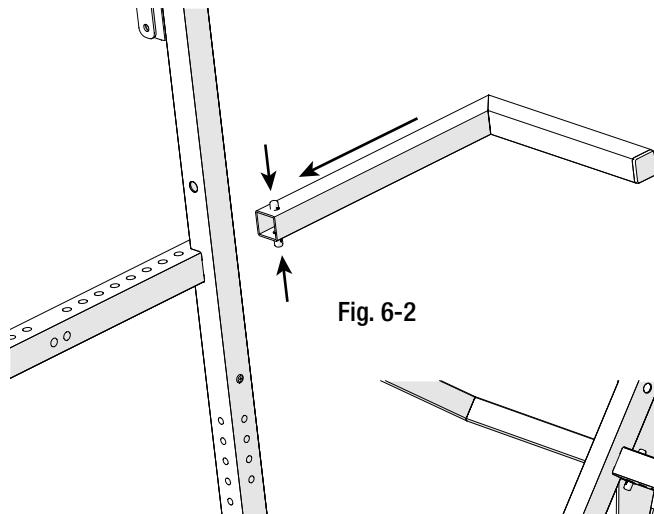

Fig. 6-2
2. Using the spring button located on the end of the side arm, slide the side arm into the side of the solar panel frame. Adjust to desired position. See Fig. 6-2. Repeat on the opposite side.